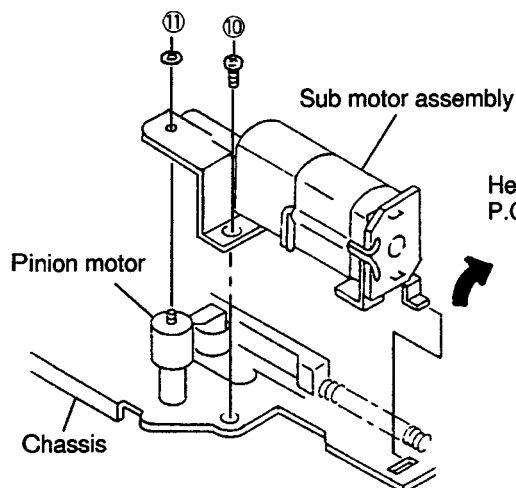

Figure 9
③ ルーズ半田、ショート等のないこと。
- (1) Remove M1.2 lock washer ⑪ and one screw ⑩ as shown in Figure 9.
- (2) Remove the sub motor assembly by pulling it up in the direction of the arrow as shown in Figure 9.
- (3) Mount it, following the removal steps in the reverse order.
② Take care to avoid damage by piercing and tearing.
③ Fasten the one screw with a fastening torque of 6kg.cm.
- (1) ロックワッシャー⑪ (M1.2) と1本のネジ⑩を外します。(図9参照)
- (2) 図中の矢印の方向へ持ち上げながらサブモーター組立を外します。(図9参照)
- (3) 取り外し方の逆の手順で取り付けます。